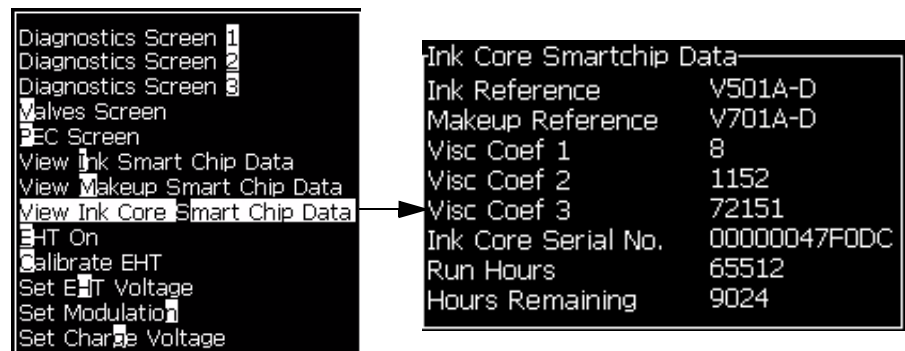

Figure 4-18: View Ink Core Smart Chip Data
- 28** Verify and record the ink core 'Run Hours'. Access *Calibrate > View Ink Core Smart Chip Data* menu (see Figure 4-18 on page 4-15).